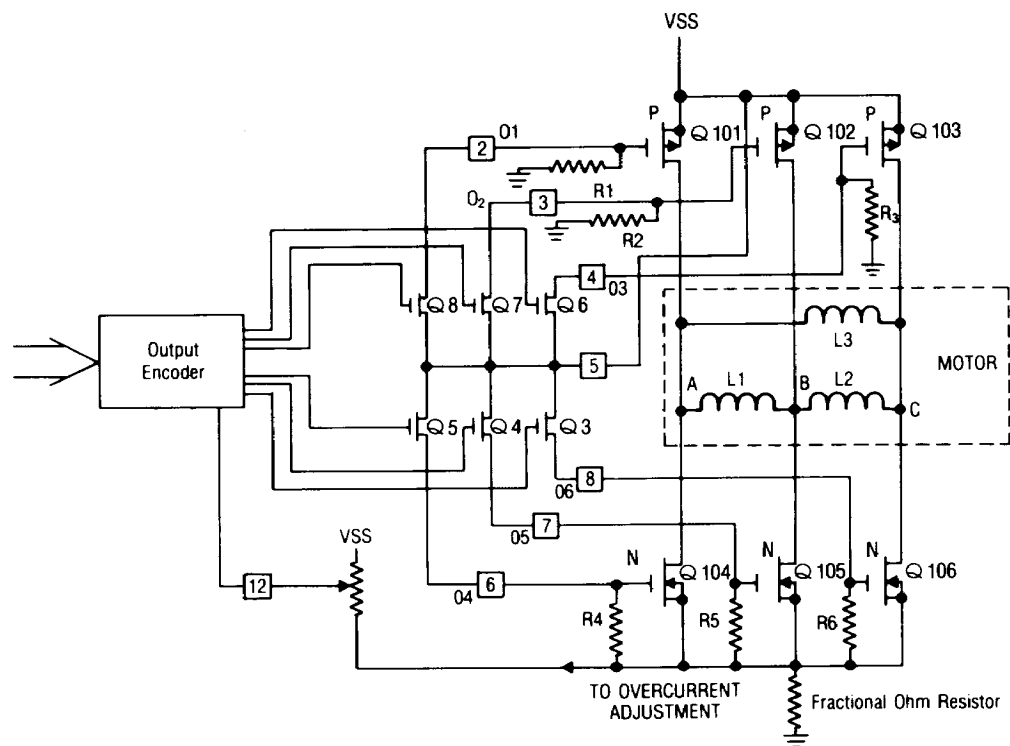

FIGURE 1
The oscillator is used for motor speed control as explained under VTRIP. Both upper and lower motor drive transistors are pulse width modulated (see Fig. 1 or Fig. 2) during speed control.
For the LS7260, (See Fig. 1) the external drivers also turn on in pairs. Internal operation is somewhat different than the LS7261 or LS7262. For example, external transistors Q101 and Q105 will turn on when internal transistor Q8 turns off and Q4 turns on enabling full power supply drive on Q101 and Q105. Since Pin 5 is tied to VSS, the gate of P-channel Driver Q101 is brought to ground potential by R1 and the Gate of N-Channel driver Q105 is brought to VSS potential by Q4. Other external output pairs turn on similarly and the commutation sequence is identical to that of the
LS7261/LS7262 (Table III). Table II indicates the minimum value of R1 (=R2=R3=R4=R5=R6) needed as a function of output drive voltage for Figure 1.
*See fig. 1 and 2